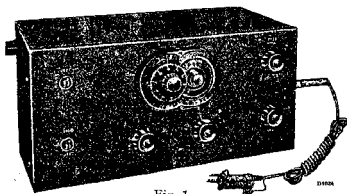

Fig. 1.
1. A service oscillator similar to Philips Type GM.2880. Fig 1.